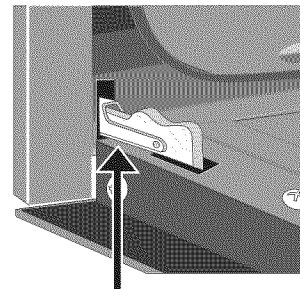
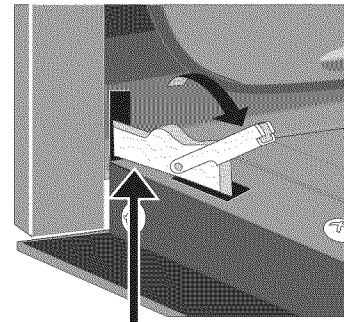

Figure 31: Door hinge locks
Figure 32: Hinge: unlocked position
2. Pull up the lock located on each hinge support toward front of the oven. You may have to apply a little upward pressure on the lock to pull it up (Figure 31 and Figure 32).
4. Push the door hinge locks up toward and into the oven frame on both left and right oven door hinges to the locked position (Figure 31).